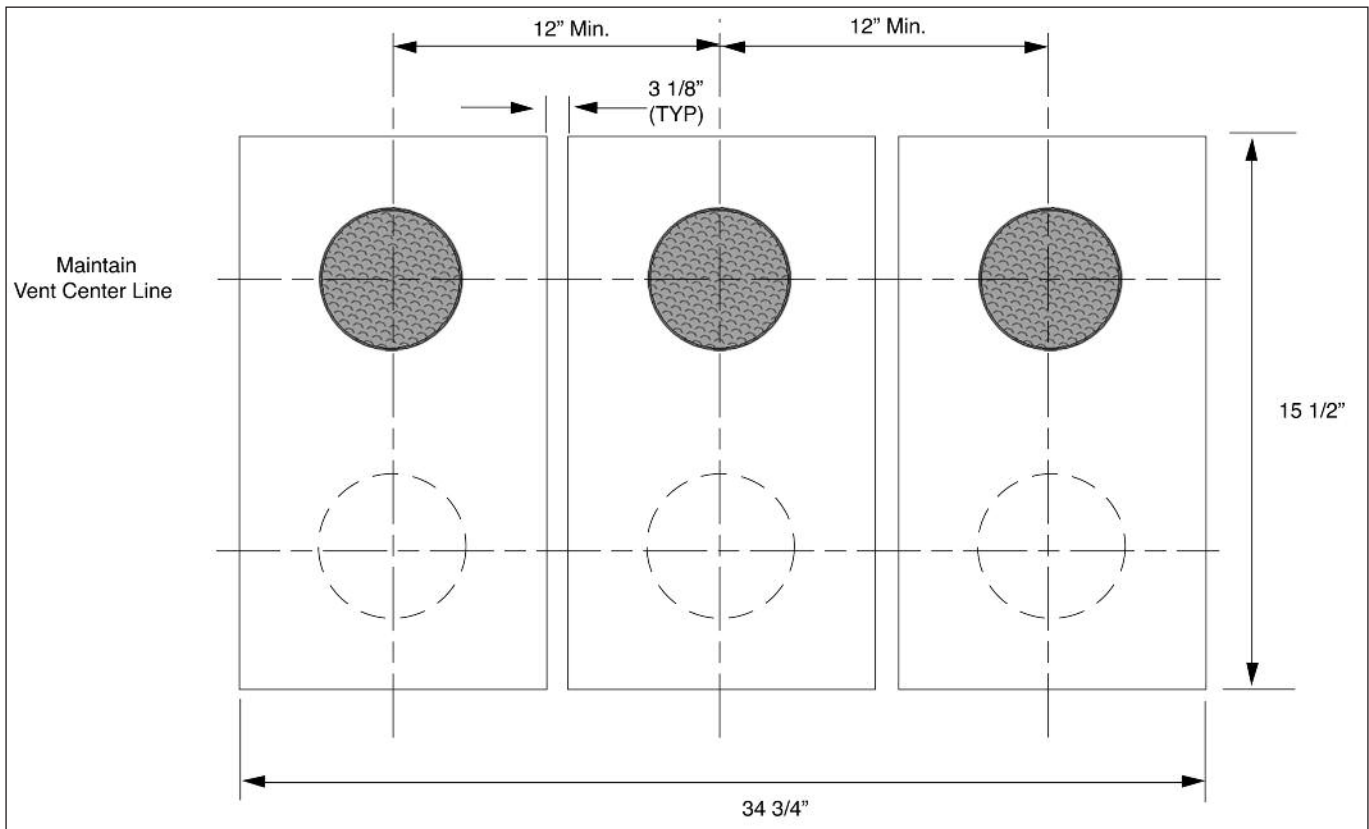

**Fig. 4: Exterior Assembly of Termination**
10. Install the termination screening onto the exterior back plate as shown in Figure 4. Using a slight twisting motion install the termination faceplate with the vent pipe inserted into the vent coupling.